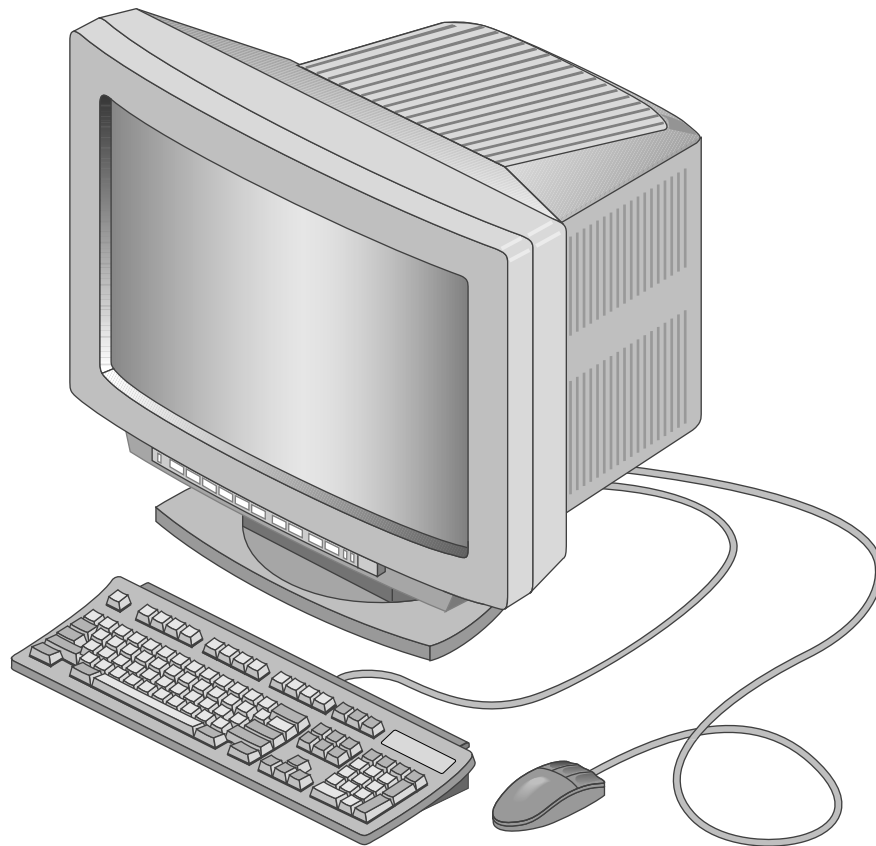

Figure 3-10 SuperWide Monitor
- 13W3-13W3: for use with the Silicon Graphics 24-inch SuperWide monitor and other compatible monitors (see Figure 3-10)